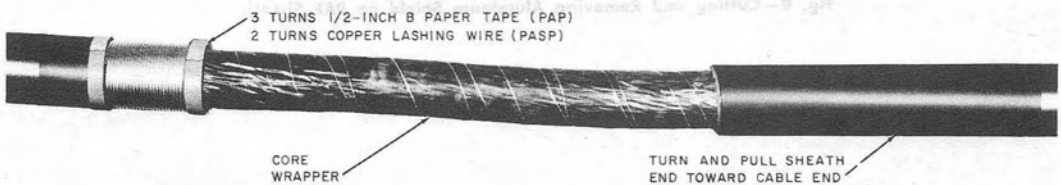

Fig. 7—Removing Sheath End
3.04 Remove the sheath end by simultaneously turning and pulling the sheath so as not to unravel the core wrapper (Fig. 7).